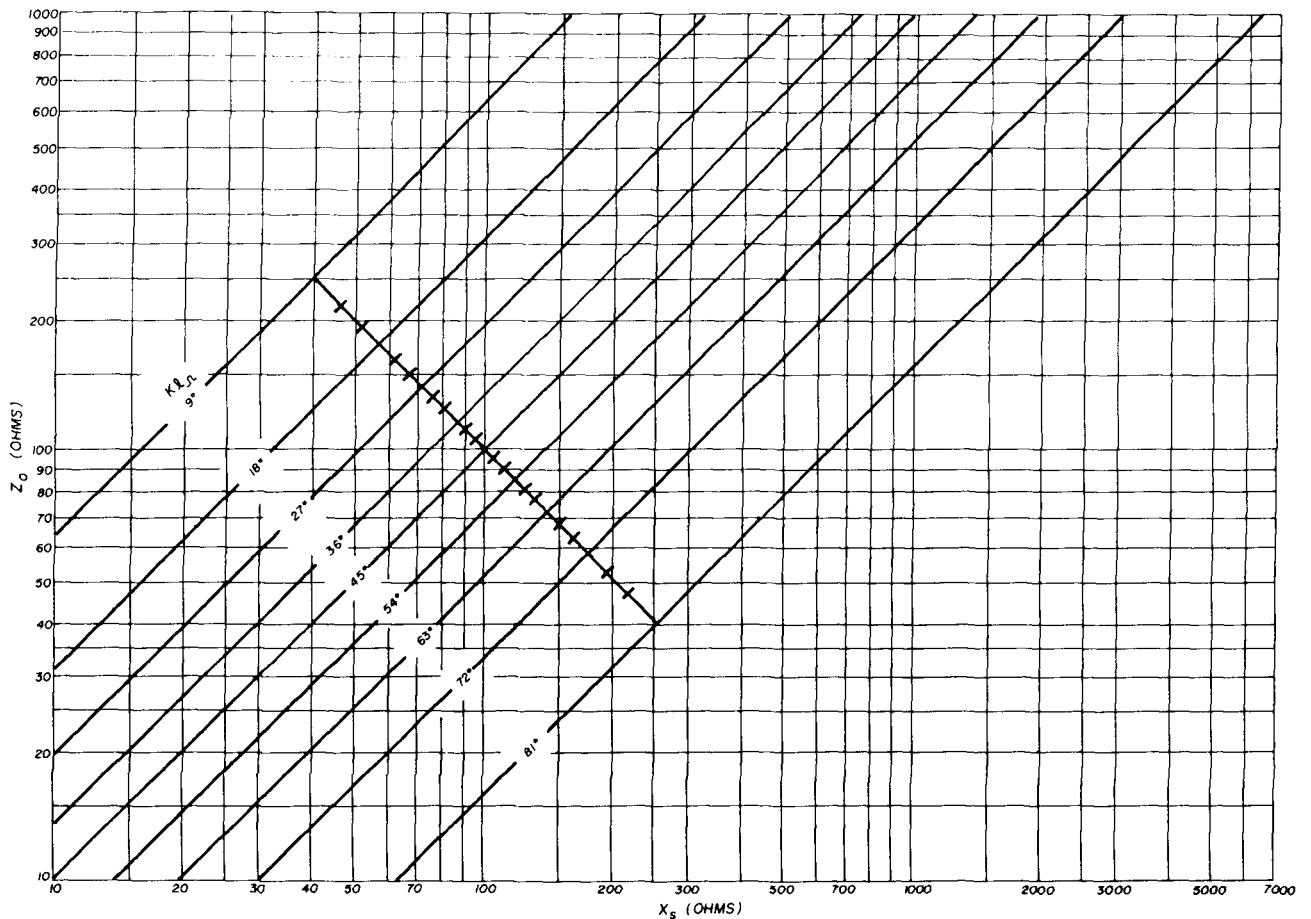

Fig. 5. Reactance of the omega rod, X_s , as a function of the rod's characteristic impedance, Z_0 , and length, kl_0 .
5. Calculate Q from **eq. 4**. When this value of Q is multiplied by H_z , you can select the correct $H_z Q$ line on **fig. 5**. This provides the reactance of the omega capacitor, X_Ω , at the bottom of the graph.